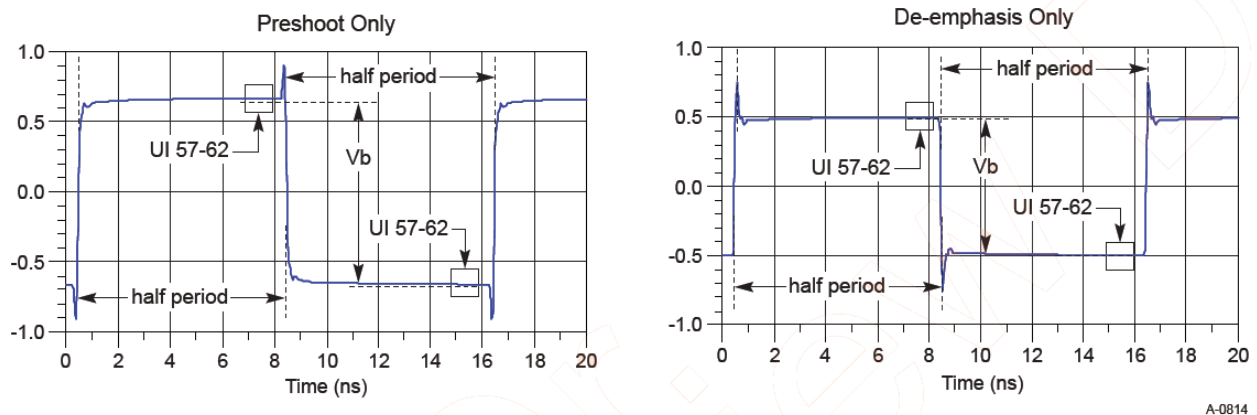

Figure 104 Waveform measurement points for preshoot and de-emphasis
8.0 GT/s, 16.0 GT/s and 32.0 GT/s PCIe signaling must support the full range of presets given in Table 8-1 (PCIe Base Specification Revision 5.0). Presets are defined in terms of ratios, relating the pre-cursor and post-cursor equalization voltages. The pre-cursor (V_c) is referred to as pre-shoot, while the post-cursor (V_b) is referred to as de-emphasis. This convention permits the specification to retain the existing 2.5 GT/s and 5.0 GT/s definitions for Tx equalization, where only de-emphasis is defined, and it allows preshoot and de-emphasis to be defined such that each is independent of the other. The tolerances in Table 8-1 (PCIe Base Specification Revision 5) also apply to 2.5 and 5.0 GT/s de-emphasis. The maximum swing, V_d , is also shown to illustrate that, when both c_{+1} and c_{-1} are nonzero, the swing of V_a does not reach the maximum as defined by V_d . The high frequency nature of PCIe signaling makes measurement of single UI pulse heights impractical. Consequently all amplitude measurements are made with low frequency waveforms as shown in Figure 104.